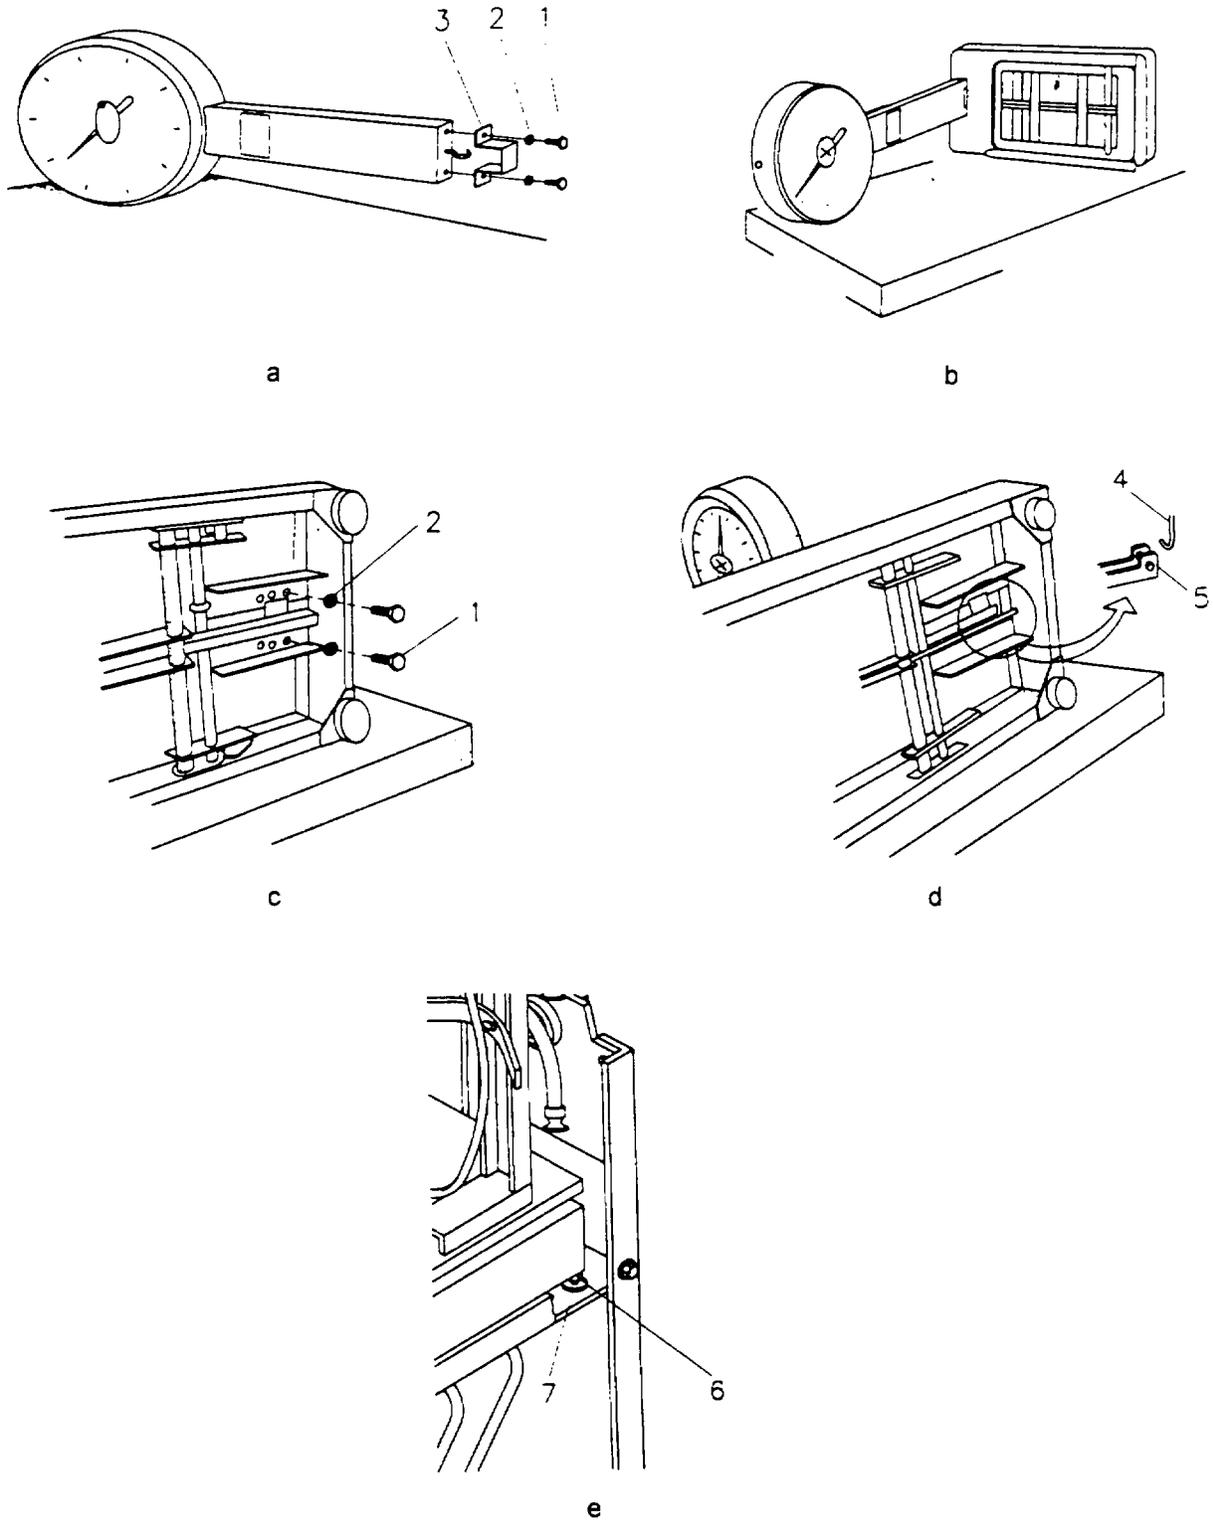

Figure 4-4. Scale Installation
4-12.1 Assembly. (Refer to Figure 4-4)**CAUTION**
- a. As shown in Figure 4-4.a, remove two screws (1), washers (2) and shipping bracket (3) at the low end of the column assembly. Discard the bracket but retain the two fastening bolts
- d. Turn the base assembly upside down and loosen the locking nut (6) on each of the four adjustable feet.
- e. As shown in Figure 4-4,b place the dial head mechanism and base assembly on their sides. Be sure that the dial chart is facing the lever mechanism.
- g. As shown in Figure 4-4,c insert two washers (2) and screws (1) (from para a) through the bottom of the base assembly and into the column assembly. Tighten screws as much as possible.
- h. Using a set of pliers, grasp the end of the steelyard assembly (4) but use caution not to scratch or damage the 'V' bearing hook. Hook the 'V' bearing hook under the tooled steel pivot (5) as shown in Figure 4-4.d